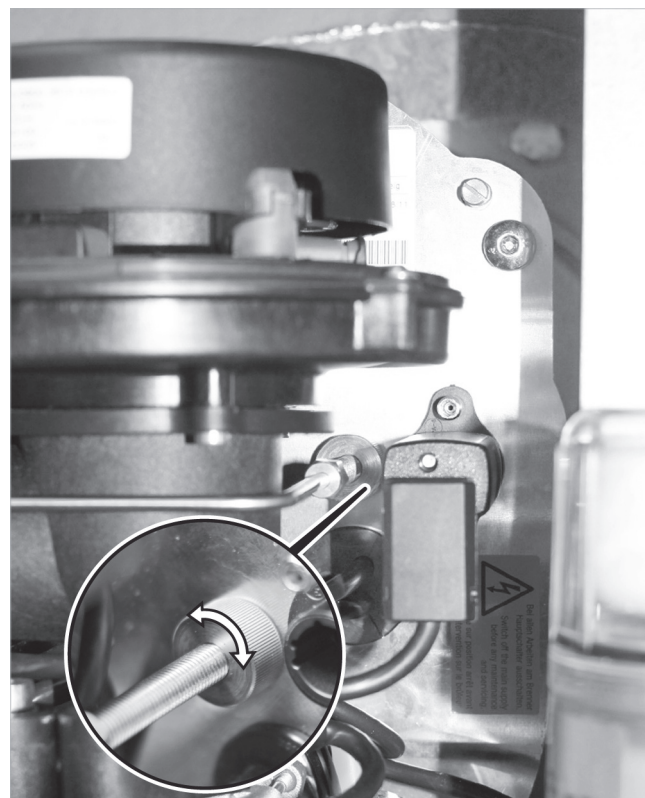

Fig. 38: Knurled nut (limit stop for oil pipe/nozzle fitting)
5. Turn the knurled nut for the nozzle fitting (see → fig. 38, p. 21) anticlockwise by approx. 2 turns (nozzle fitting is pulled "backwards").
1. A knurled nut is located in front of the burner base plate at the connection of the oil pipe and the nozzle fitting (→ fig. 38). You can use this to move the entire mixing unit forwards or backwards. The knurled nut can be adjusted up to a certain point (limit stop of the mixing unit in the flame tube). Adjust the knurled nut so that the mixing unit is touching the limit stop.